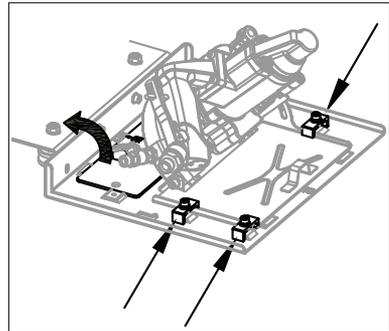

Figure 6
3. Secure the Stone Cutter to the Carriage base by using three pieces of the Clamping Plate Assembly. (See Figure 6)
4. After the Stone Cutter is completely secured to the Carriage Base, remove Template-M1 from the Carriage Base. (See Figure 6)